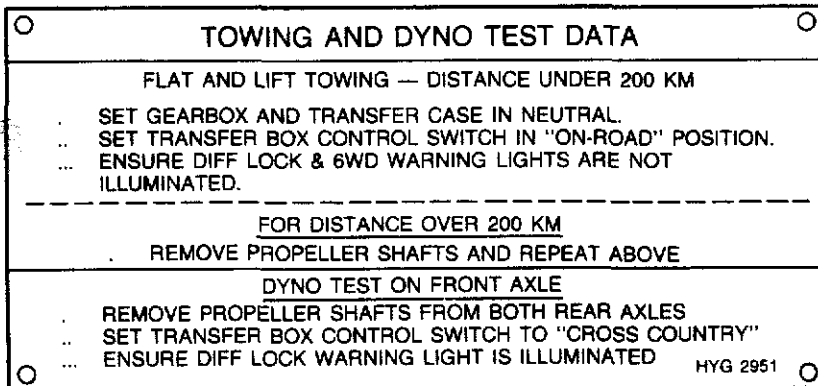

Figure 1-22 Towing and dyno test data plate
98. Towing and dyno test data plate (Fig. 1-22)